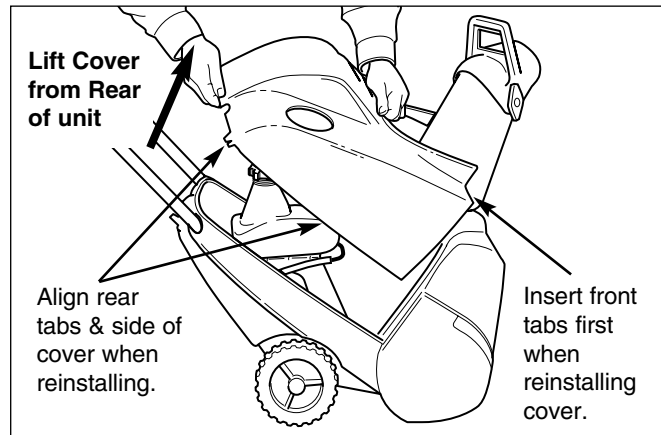

Figure 10. Cover Removal & Installation
4. Remove the cover (see Figure 10).